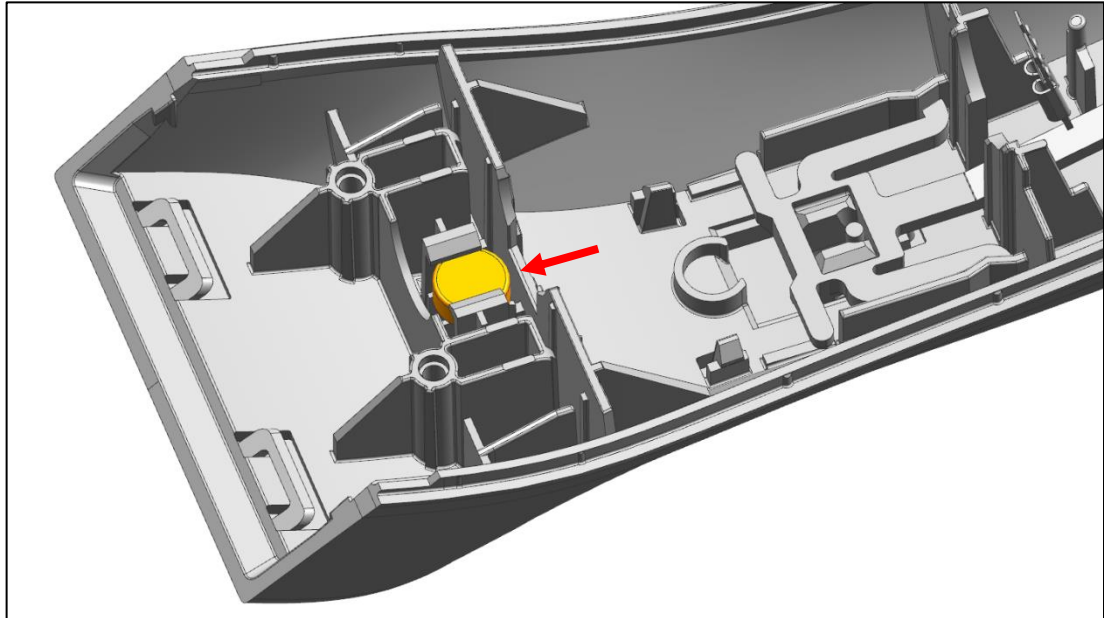

Fig. 28
- a) Push the magnet from the rear to the front, until it is centered below the hooks, that are intended for this purpose (Fig. 28).